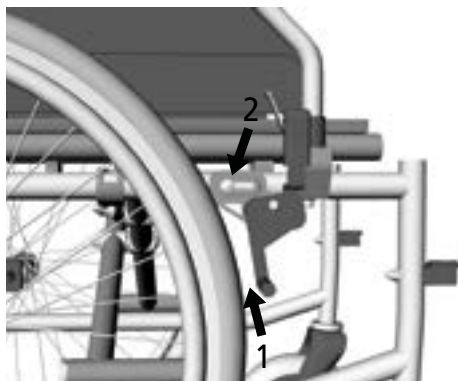

fig. 28
The wheelchair frame has 5 bore holes for seat height adjustment using the rear wheel adapter (2, fig. 28). Bore holes provided:
The distance between the brake pins and the tyre casing must be 3-5 mm at the narrowest point when the brake mechanism is fully open (1, fig. 28).
**Tools:** Allen key size 4 and open-end wrench AF 10. Loosen the screw to adjust/correct the distance (2, fig. 28). Then push the brakes into the correct position. Now retighten the screw and check the function of the brakes. When the brakes are applied, it must not be possible to push the wheelchair.